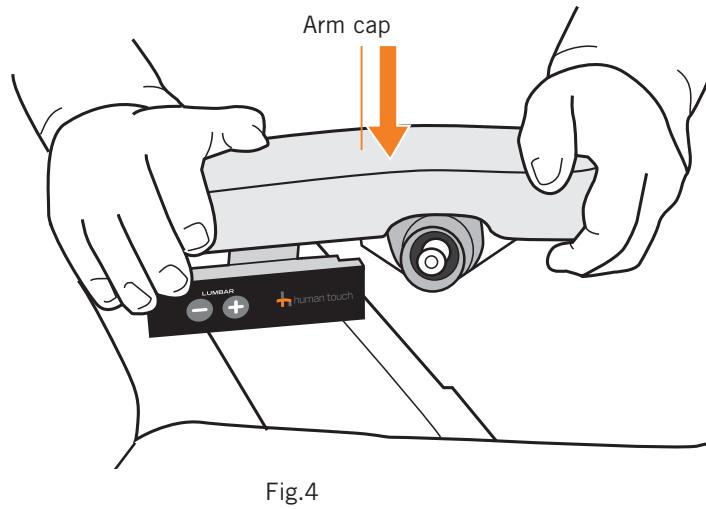

Fig.4
6. While holding the housing firmly in place, place the arm cap into position and press down firmly (Fig.4).